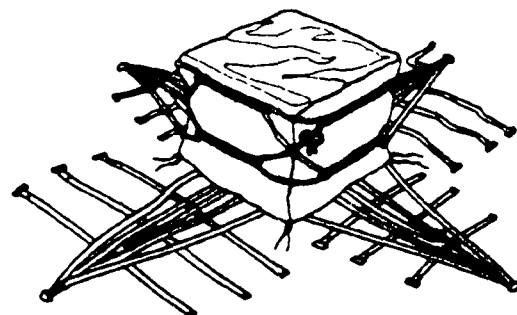

Figure 1-3. Securing the Cover with Lacing Cord
Step 5 - Using lacing cord or Type III nylon cord, secure the cover at each corner by running the cord through the lacing loops in a figure-eight design (Figure 1-3). Tie the cord ends with a bow knot and secure. The purpose of the cord is to tighten the cover around the load so that small items cannot fall out.